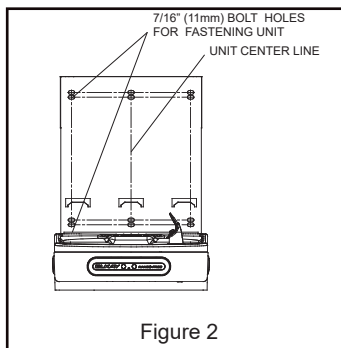

Figure 2
4. Install wall mounting plate to wall using six (6) 7/16" (11mm) obround mounting holes (mounting bolts not included) (See Fig 2). Use appropriate fasteners for your wall type.